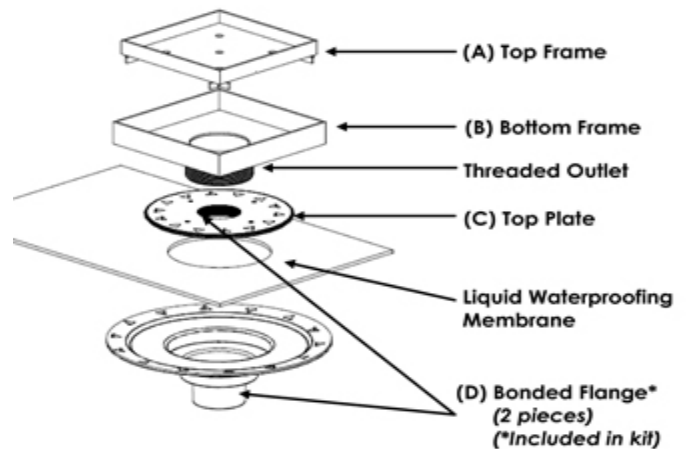
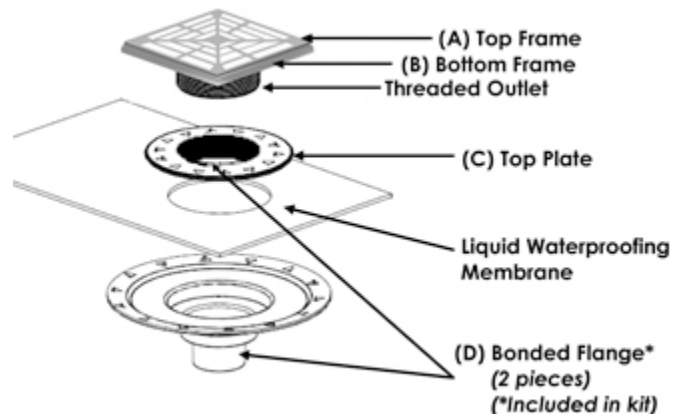

Fig. 1
Fig. 2
to installing the HYDRO BAN® Bonding Flange Drain make sure the backer board has been installed on the walls following the manufacturer's recommendations. The HYDRO BAN Bonding Flange Drain should be installed per TCNA Method B422. Before installing the HYDRO BAN Bonding Flange Drains make sure the opening in the floor where the waste line connection is made is 4-1/4" (108 mm) in diameter. The lip of the HYDRO BAN Bonding Flange Drain should sit approximately 1-1/4" (32 mm) above the substrate. Dry fit the HYDRO BAN Bonding Flange Drain through the hole and to the waste line below. When connecting to a 2" (50 mm) waste line which is already in place the top of the waste line should be 1-3/4" (44 mm) below the surface of the substrate. Make sure that the HYDRO BAN Bonding Flange Drain is PVC when connecting to a PVC waste line or ABS when connecting to an ABS waste line. Cement the HYDRO BAN Bonding Flange Drain in place using PVC solvent and cement for PVC and ABS solvent and Cement for ABS HYDRO BAN Bonding Flange Drain and waste line connections. Make sure that the HYDRO BAN Bonding Flange is level before the PVC or ABS cement has cured. DO NOT MIX materials, this will cause a failure in the pipe weld. When installed over EGP the bonding flange (D) Fig 1 and 2 can be screwed to the substrate using stainless steel or zinc coated 3" (76 mm) drywall screws. There are four countersunk holes around the perimeter of the bonding flange (D) for this purpose. The installation is now ready to accept the mortar bed.
Installing HYDRO BAN and Tile (Fig. 1 and Fig. 2)
3. Tile walls and floors; when thin-set and tile are ready to be installed around the HYDRO BAN Bonding Flange Drain comb thin-set onto bonding flange (D) and set top plate (C) onto the bonding flange. Thin-set should ooze through the triangle voids in the top plate (C). Scrape any excess thin-set from the top plate (C) using a trowel. As you tile closer to the top plate insert the threaded outlet of the top and bottom frame (A and B) into the top plate (C). Adjust the top and bottom frame by screwing in the threaded outlet to the top plate (C) to allow for height adjustment (fig. 2). Thin-set over the top plate (C) and install tile.
4. If using the tile-in grate with the HYDRO BAN Bonding Flange Drain, remove top frame (A) and prime surface with two coats of HYDRO BAN prior to installing tile within the frame using a polymer fortified thin-set. Make sure that the stainless steel top frame (A) is free of grease, dirt or finger prints prior to applying the HYDRO BAN.